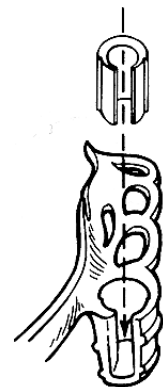

Fig. 11
19. Insert nylon clips into the receptacles created in the framework (Fig. 11).